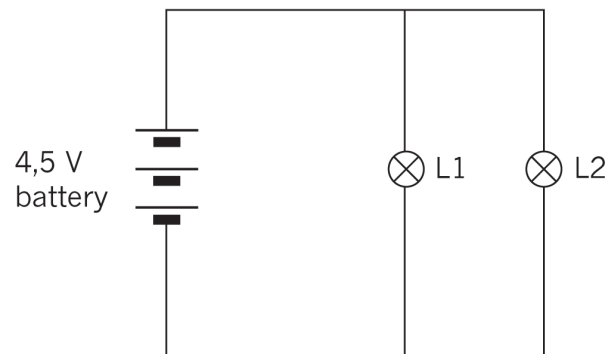

Figure 9
1. Look at the circuit diagram in Figure 9 and answer the following questions: